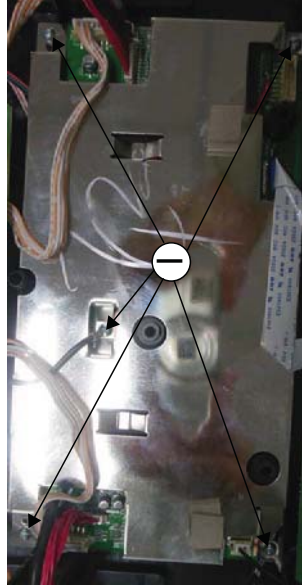

Figure 8
- 1) Loosen 5 screws "I" on the top of Main Board as shown in figure 8.